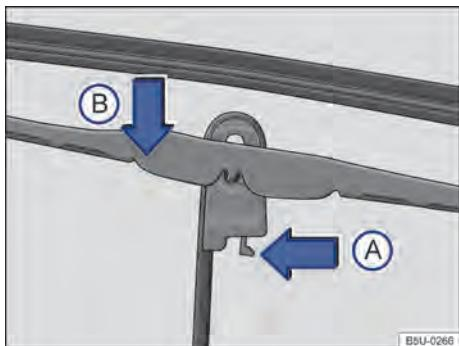

Fig. 165 Replacing windscreen wiper blades.
- Position the wiper in a perpendicular position to the wiper arm → Fig. 165.
- Push the release lever as directed by the arrow ①.
- Disengage the wiper as indicated by arrow ②, move the wiper in the wiper arm's opposite direction and remove the wiper in the opposite direction to the indicated by arrow ②.